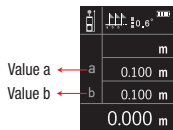

Fig. 9
1. long press button  the device shows as fig. 9